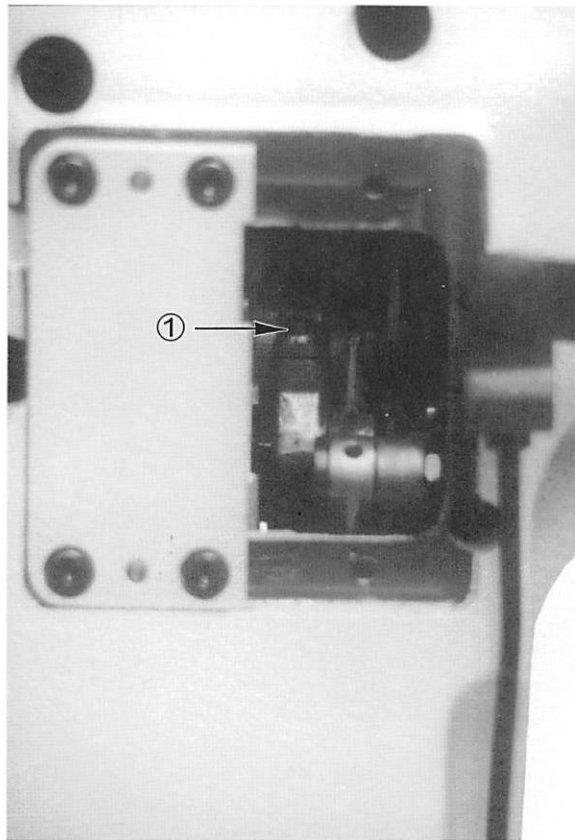

Fig. 16
1. Remove the cover (G, Fig. 3) and loosen the screw (①, Fig. 16) slightly.